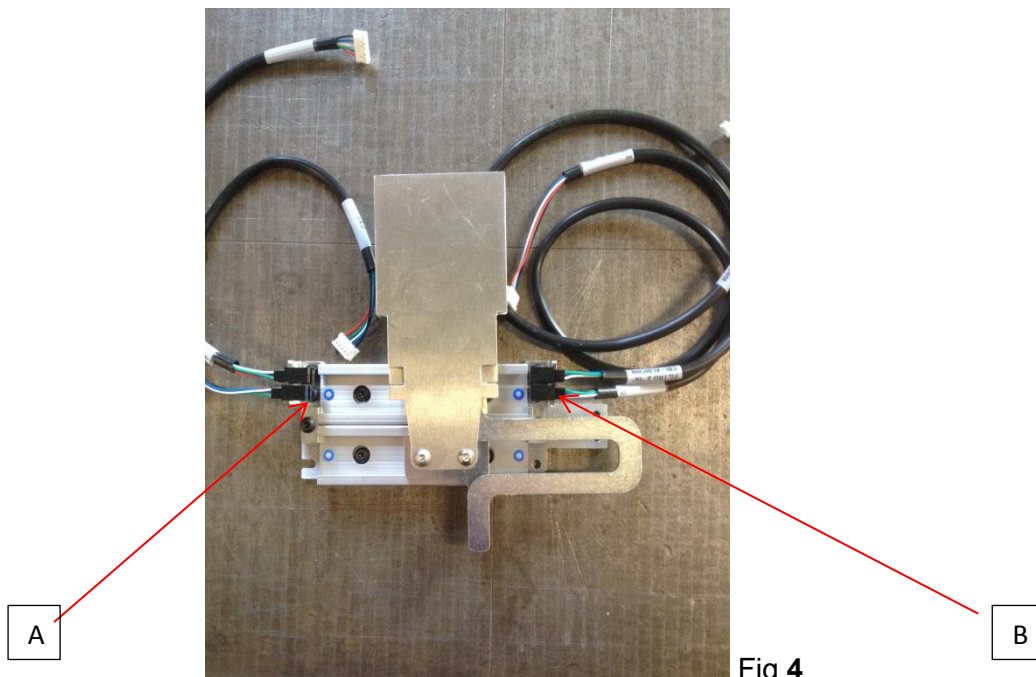

Fig 4
6. Take off the damaged optical switch by removing the screw from group A or B as in fig.4 , and position the new one